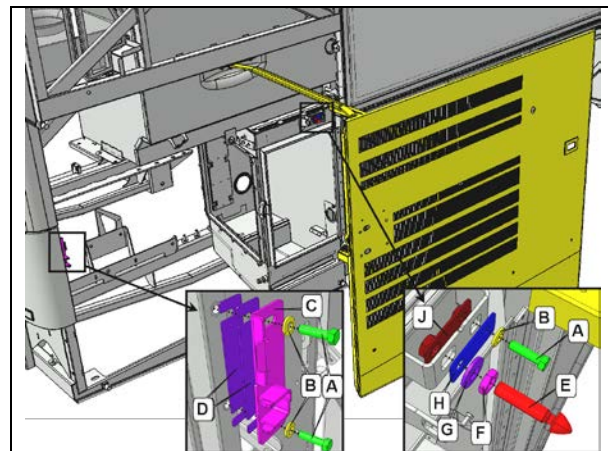

FIGURE 109: DOOR INSTALLATION – LATCH SYSTEM
1. To adjust the position, the door must be free to move without any restriction. For this reason, remove pin E and strike plate C (FIGURE 109).